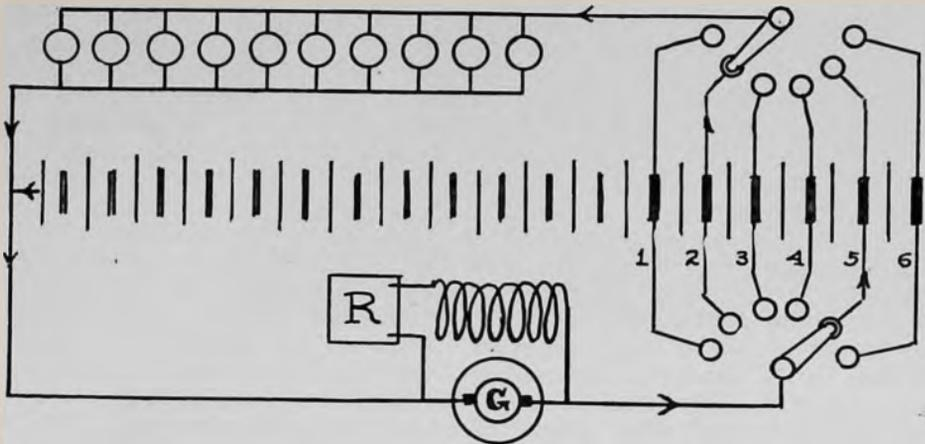

Fig. 7
In large central stations, either the "end cell" or "booster" method of control would ordinarily be found. The diagrammatic scheme of the former is shown in Fig. 7. A shunt generator is represented at *G*, its field being controlled by a rheostat as in the usual manner. The only real difference in the generator from standard construction would be, at most, in its ability to generate 150 to 160 volts. The end-cell switches are double, one being connected on the generator side, the other on the circuit to be supplied. In the positions shown, (1) current can be regarded as both charging the battery and supplying the line, there being a sufficient number of the end-cells cut in to give the right voltage for the lamps. The combinations also allow (2) the generator to supply the exterior circuit alone; (3) to charge the battery alone; (4) the battery to carry the load alone; or (5) the generator and the battery to work in parallel. There is a serious defect, however, that in the first case, as can be seen from the diagram, certain end-cells are compelled to pass the regular charging current in addition to that flowing in the line. This overcharges and undesirably disintegrates the plates.